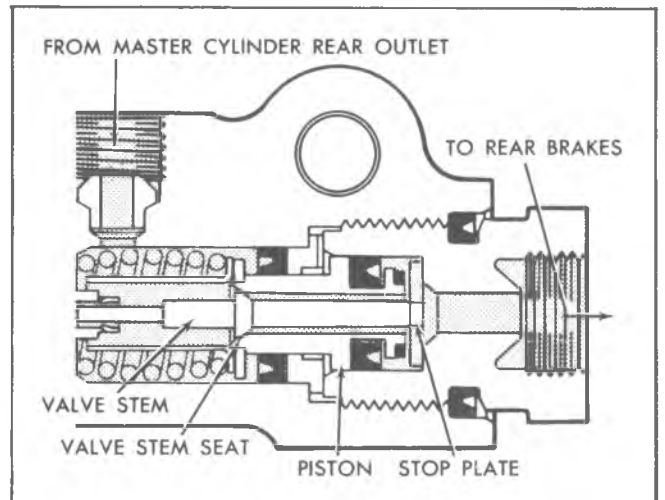

Fig. 16--Proportioning Action
**Proportioning Action (Fig. 16)**